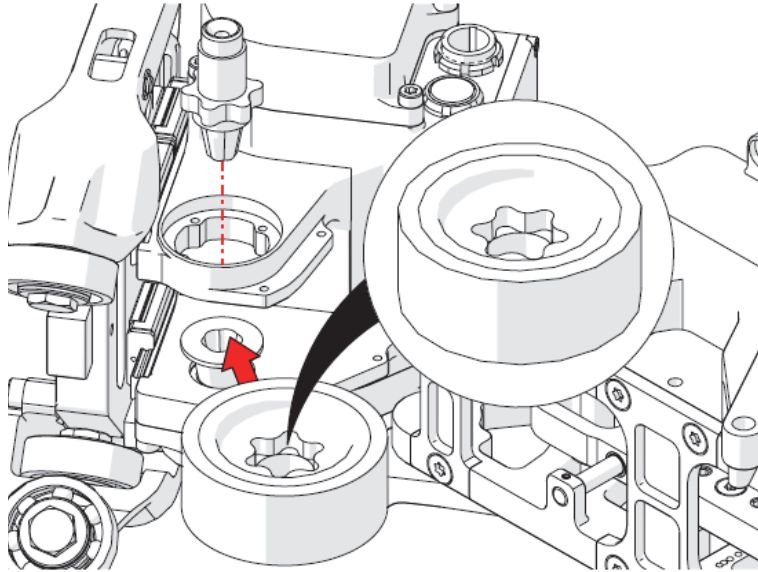

Figure 2-23 Install the new drive wheel
27. Install the new drive wheel, ensuring the grooves for the axle are facing up (see Figure 2-23 on page 99).